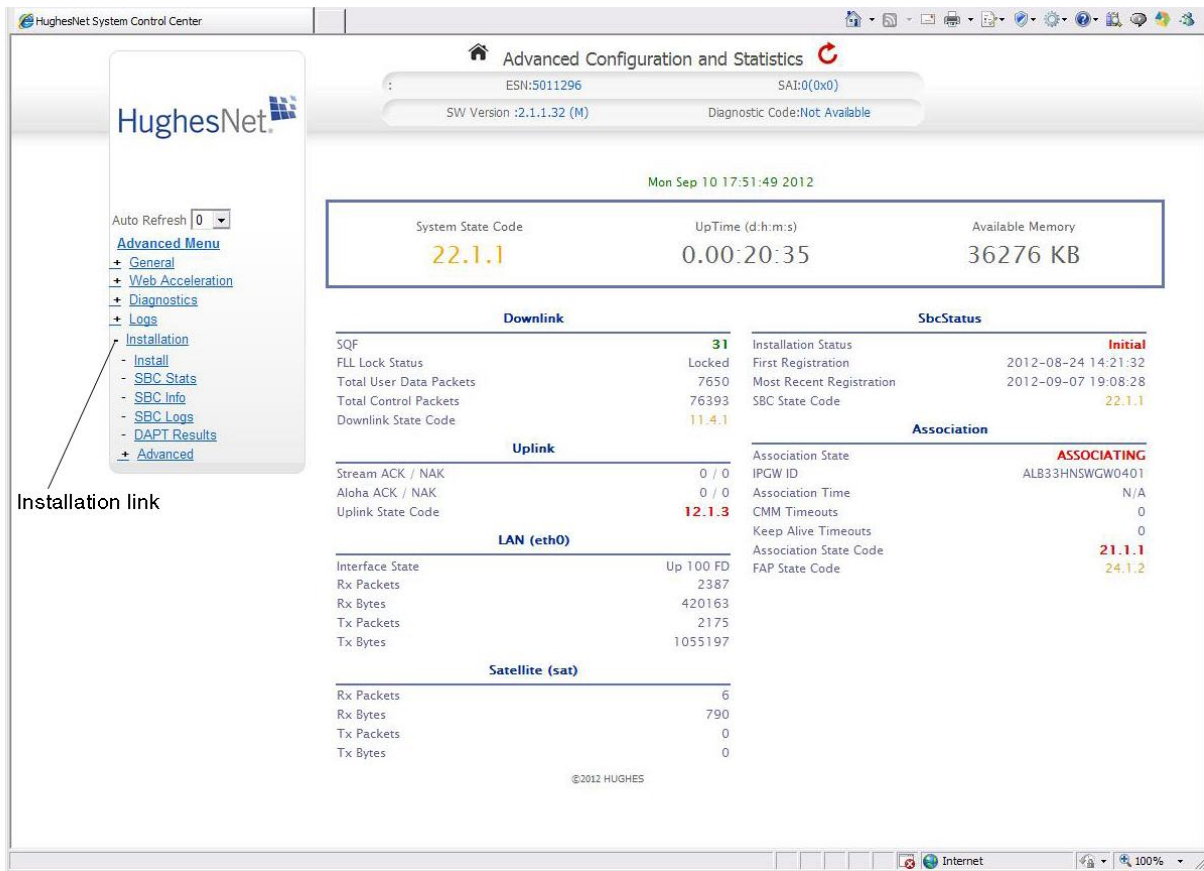

Figure 14: Advanced Pages install link
4. Click Installation on the side panel to access the drop-down menu as shown in Figure 14.